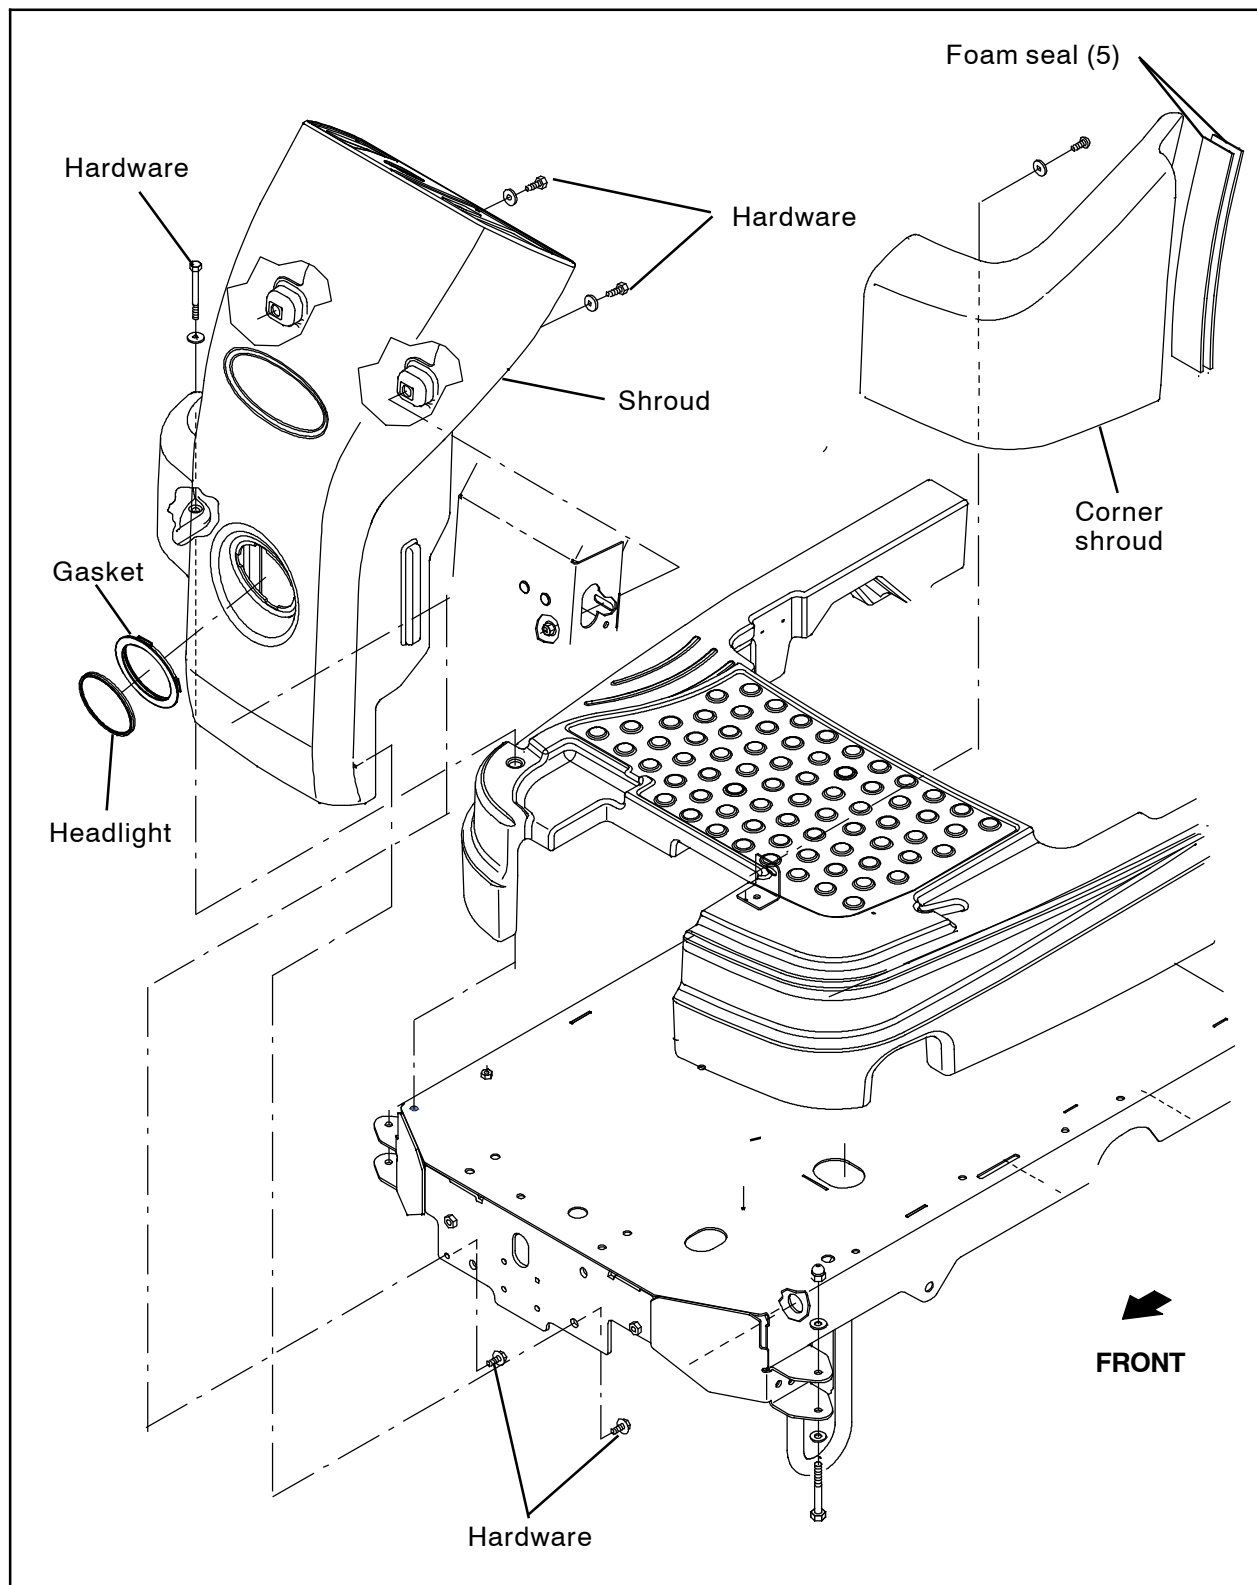

FIG. 55
38. Clean the foam seal from the corner shroud and solution tank. (Fig. 55)
39. Install the new foam seals (5) onto the corner shroud and solution tank where the old foam seal was located. (Fig. 55)
40. Reinstall the corner shroud. (Fig. 55)